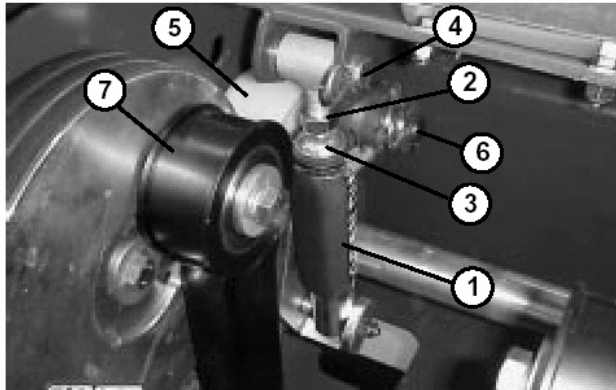

Figure 1
1. Loosen the jam nut securing the idler tube to the tensioner arm (Fig. 1).
2. Rotate the hex on top of the idler arm until all the spring tension is removed (Fig. 1).
3. Remove the hair pin cotter and the idler pin securing the top of the spring assembly to the frame (Fig. 1).
4. Remove the hair pin cotter securing the idler pulley assembly to the idler shaft (Fig. 1). Remove the idler assembly from the shaft.
5. Remove the screw, lock washer and flat washer securing the top of the tine arm to the pulley (Fig. 1).
22. Reinstall the top of the tine arm to the pulley with the screw, lock washer and flat washer. Torque the screw to 166 ft–lb (225 Nm) (Fig. 1).
23. Secure the idler pulley assembly to the idler pivot shaft with the hair pin cotter (Fig. 1).
24. Secure the tip of the spring assembly to the frame with the idler pin and hair pin cotter (Fig. 1).